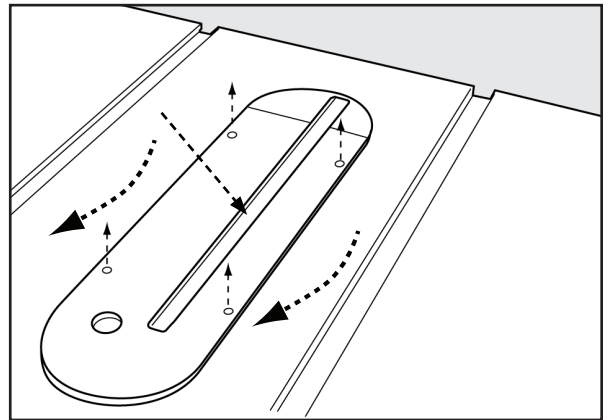

FIGURE 15B
4. To remove throat plate, lower blade below tabletop, then carefully slide the throat plate from out from the rear of the table to the front, keeping the blade centered within the slot on the throat plate. Figure 15B.